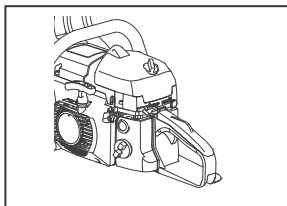

Figure 15
2. Put the switch to the stop position (Figure 15).